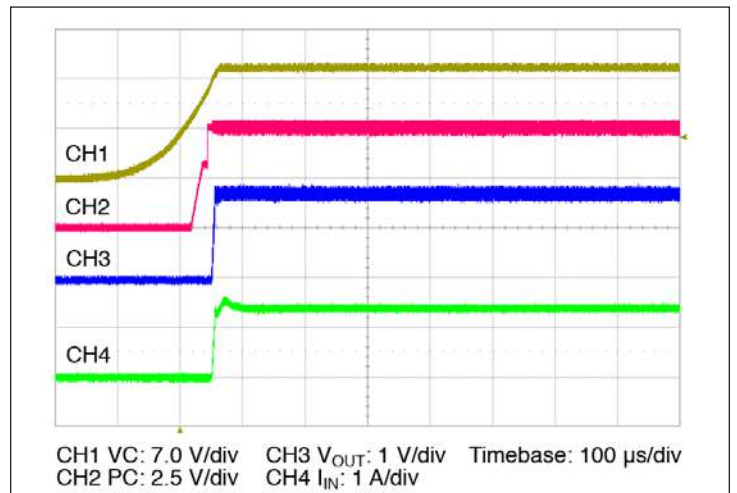

Figure 14 — Start up from application of VC;  $V_{IN}$  pre-applied  $C_{OUT} = 0 \mu$ F
- **Stand Alone Operation (VC applied after VIN):** In this case the module output will begin to rise upon the application of the VC voltage (See Figure 14). The Adaptive Soft Start circuit (See Section 10) may vary the output rate of rise in order to limit the inrush current to its maximum level. When starting into high capacitance, or a short, the output current will be limited for a maximum of 900 µsec. After this period, the adaptive soft start circuit will time out and the module may shut down. No restart will be attempted until VC is re-applied, or PC is toggled. The maximum output capacitance is limited to 1500 µF in this mode of operation to ensure a successful start.